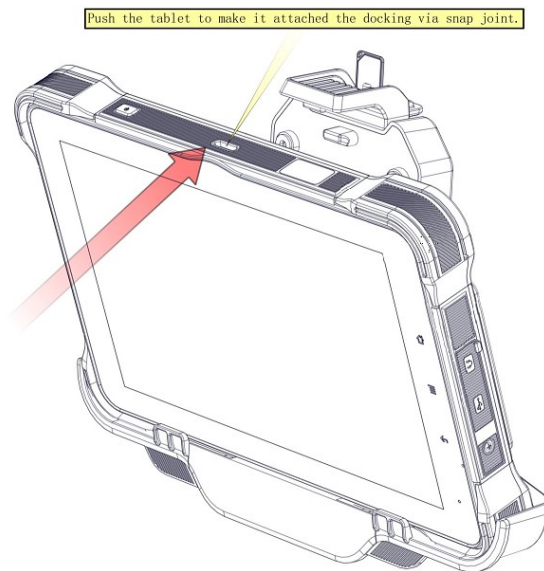

Fig. 4-4
4. Push VT-10 Pro to make it attached the docking via snap joint, as Fig. 4-4 shown.